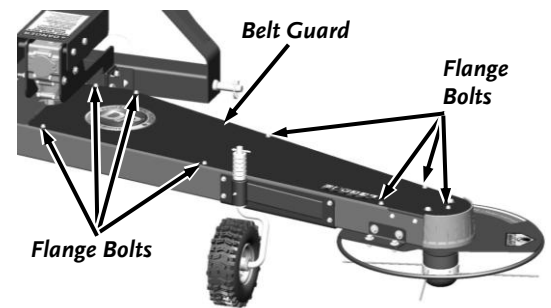

Figure 37
1. Remove the eight Flange Bolts from the Belt Guard using a 3/8" Wrench (**Figure 37**).